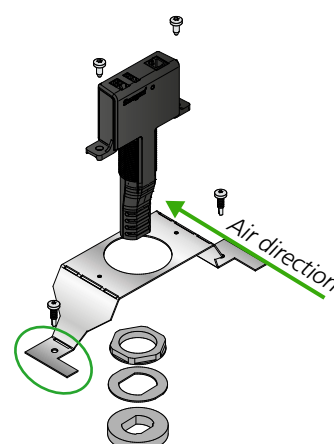

Figure 3. Legs and feet on the shelf bent according to size ø400-630 and rectangular dampers.
2. Screw the WISE SMA Multi to the shelf and bend the legs and feet of the shelf so that the sealing ring of the WISE SMA Multi is against the sheet metal (see Figure 3).
3. Bend the feet and legs on the shelf so that they lie flush with the damper casing (see Figure 3 as an example). Keep in mind that the sealing ring on the WISE SMA Multi should lie against the sheet steel.